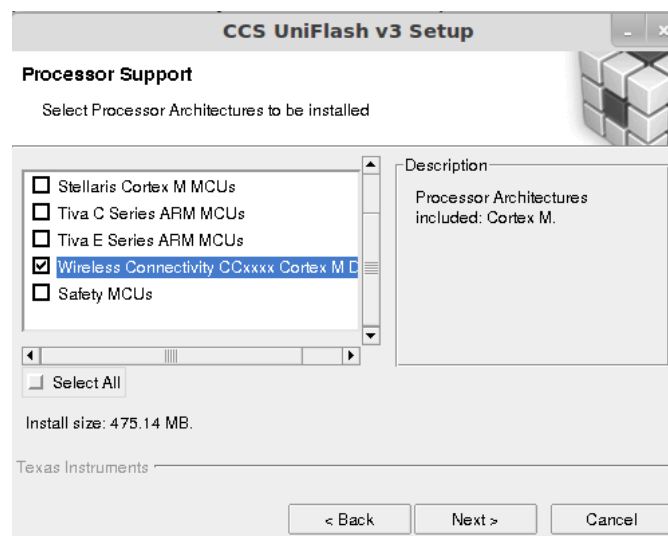

Figure 9. UniFlash Installation
2. Run the installer (uniflash_setup_x.x.x.xxxxx.bin). Select custom installation and make sure that support for Wireless Connectivity devices is installed (see Figure 9).